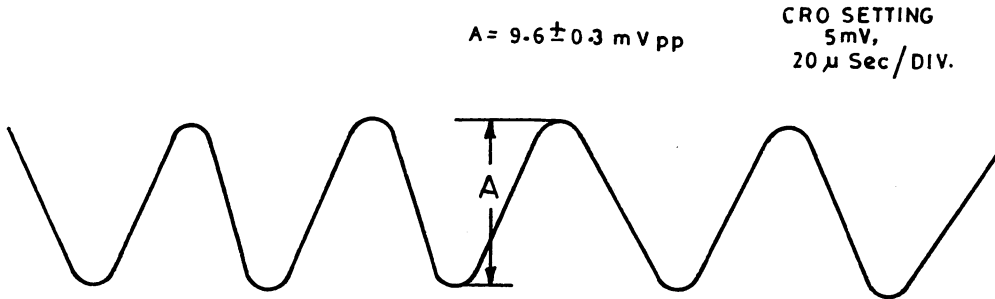

Fig. 11.24
4. Adjust audio bias current adjustment control R 4048 on the audio section so that the wave form becomes 9.6 ± 0.3 mV P-P as shown in fig. 11.24.